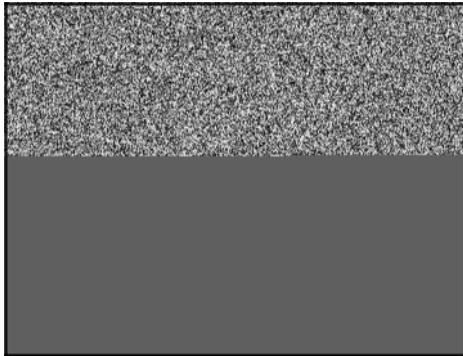

Figure 71
2. Hook governor link spring (**B**, Figure 71) in non-grommet throttle lever hole.